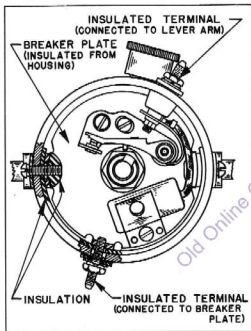

Fig. 39—Ignition Distributor Connections
4. Install the breaker plate in the distributor body, assemble breaker plate insulation. Then assemble the distributor cap retaining clips; the screws which mount the clips are screwed into insulation nuts on the inside of the breaker plate, Fig. 39.